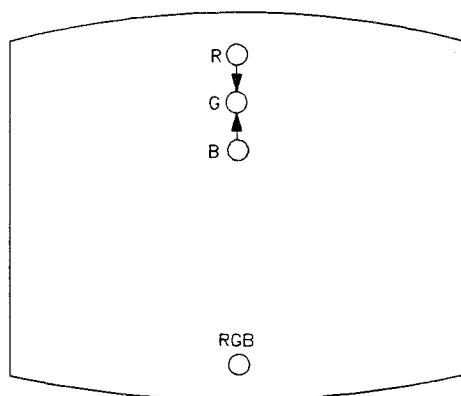

Figure 4-10. V.STAT TOP Adjustment
4. Adjust **V.STAT TOP** (RV801) and **V.STAT BOTTOM** (RV802) on bottom PC board to obtain coincidence of red, blue, and green at intersection of top and bottom horizontal lines with center vertical line. Refer to figures 4-10 and 4-11.